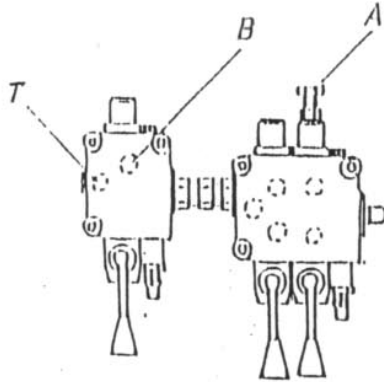
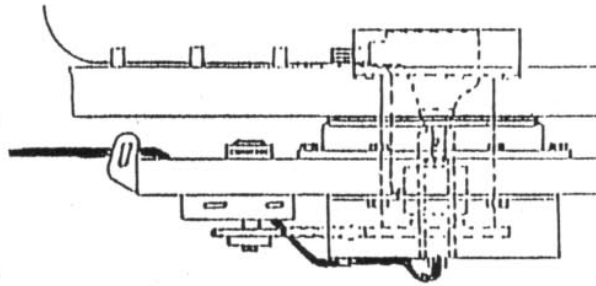

Fig. 5
Fig. 6
The hydraulic valve for the cut-cylinder is to be mounted in serial connection to the original double-leaver valve according the fig 5. by use of the 3/8 " fittings bypacked. Remove first the double leaver valve from the wrapper, remove the return-oil hose and plug its hole. The just removed return-oil hose is to be mounted to the return outlet (T) of the singel leaver valve.
The hose from the outlet B fig 5 is to be drawn together with the motor hoses down under the center of the turntable and connected to centershafts 1/4 " oil-inlet. Fig 6.